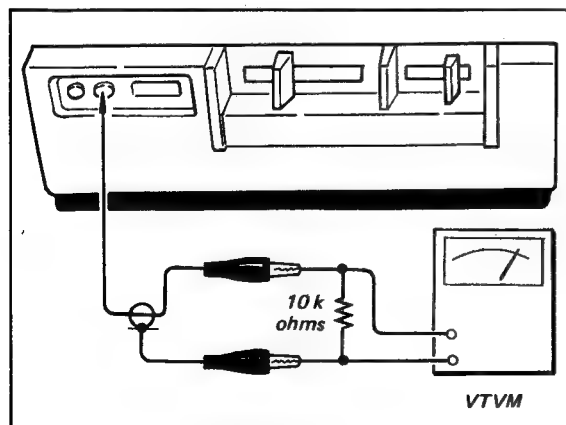

Fig. 6-1 Audio output level check
2. Connect VTVM as shown in Fig. 6-1.
1. Connect VTVM as shown in Fig. 6-1.